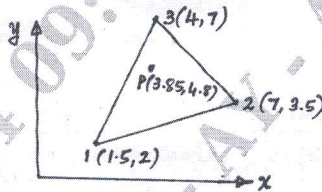

Fig. Q3 (c)
c. Evaluate the shape functions N_1, N_2 and N_3 at the interior point P for the triangular element shown in Fig.Q3 (c).